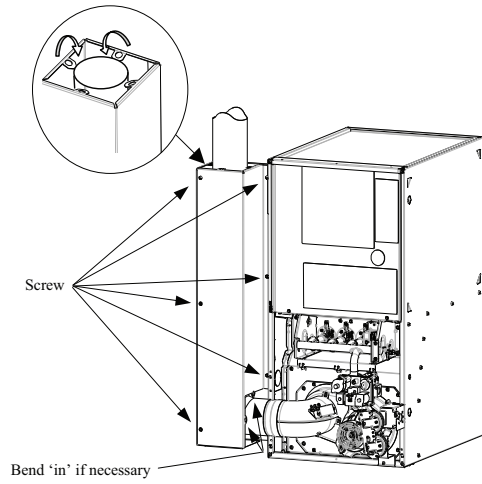

Fig. 6 - Install Guard Front
9. Position Guard Front on Guard Back. (See Fig. 6.) Bend centering tabs equally at top of Guard Back and Guard Front to allow Guard Front to mount flush with Guard Back. Centering tabs on lower right-hand opening of Guard Front may also require bending.
10. Secure Guard Front to Guard Back with six screws. (See Fig. 6.) If necessary, rebend centering tabs so that vent pipe is securely centered in vent guard and will not rattle.